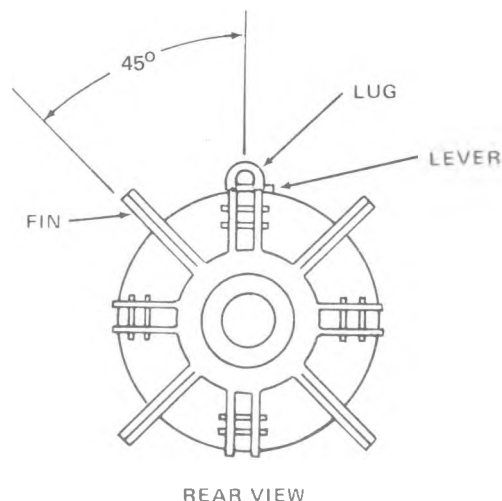

Figure 3-17. Fins Form X Configuration in Relation to Lugs
5. Fins must form an X in relation to suspension lugs (figure 3-17).
4. Fins must form an X in relation to the suspension lugs (figure 3-17).